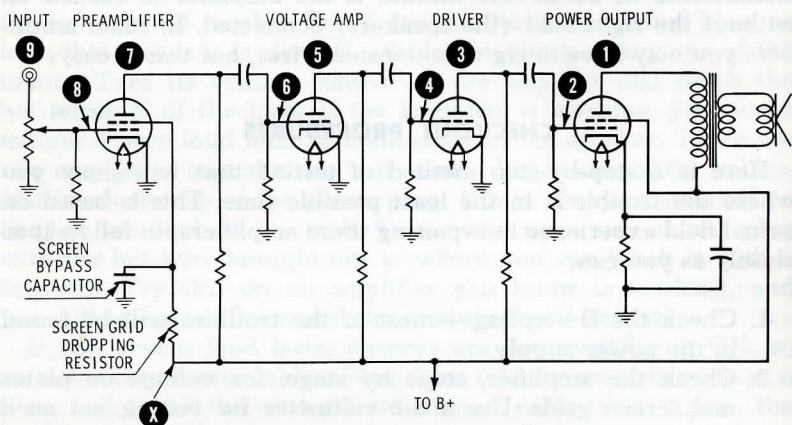

Fig. 4-1. Sequence of testing amplifiers.
Fig. 4-1 shows a partial schematic of a typical amplifier. The idea is to check the signal path by listening for pops as the volt-
ages are being checked. This path starts at the input and goes all the way through in a plain series circuit. Each time the signal passes through an amplifier stage, it gets louder (more amplification). Anything that breaks the chain will stop the signal right there. You can see the test method: Start at the output and work back toward the input. The numbers in Fig. 4-1 show the correct sequence. For this test it is assumed that the power supply has been checked and the right B+ voltage found at the filter output (X). If the output of the power supply is correct, the power